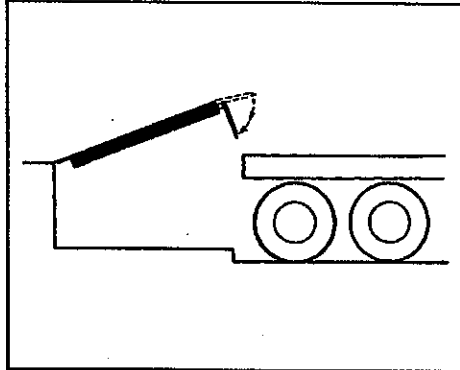

Fig. 33. Storing Dock Leveler
6. When loading/unloading is completed, or if end loads (pallets which prevent use of the lip) must be loaded, press the "RAISE" pushbutton. The dock leveler platform will raise and the lip will fold. When the leveler lip is fully folded, release the "RAISE" pushbutton. The leveler will descend to the cross traffic position (the lip fully folded, inside the keepers, and the platform level with the dock floor). See Figure 33.